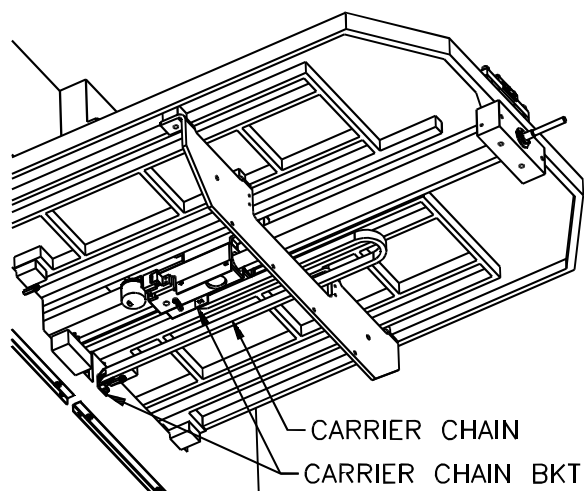

Figure 6
11. Fasten one end of the encoder cable, chain carrier to the frame of the machine. Route the carrier chain through the cutout in the table brace. Fasten it to the backgauge carrier. Install a strain relief cable tie to the backgauge carrier to secure the encoder cable. Plug the encoder cable into the encoder. (Figure 6, page 16)